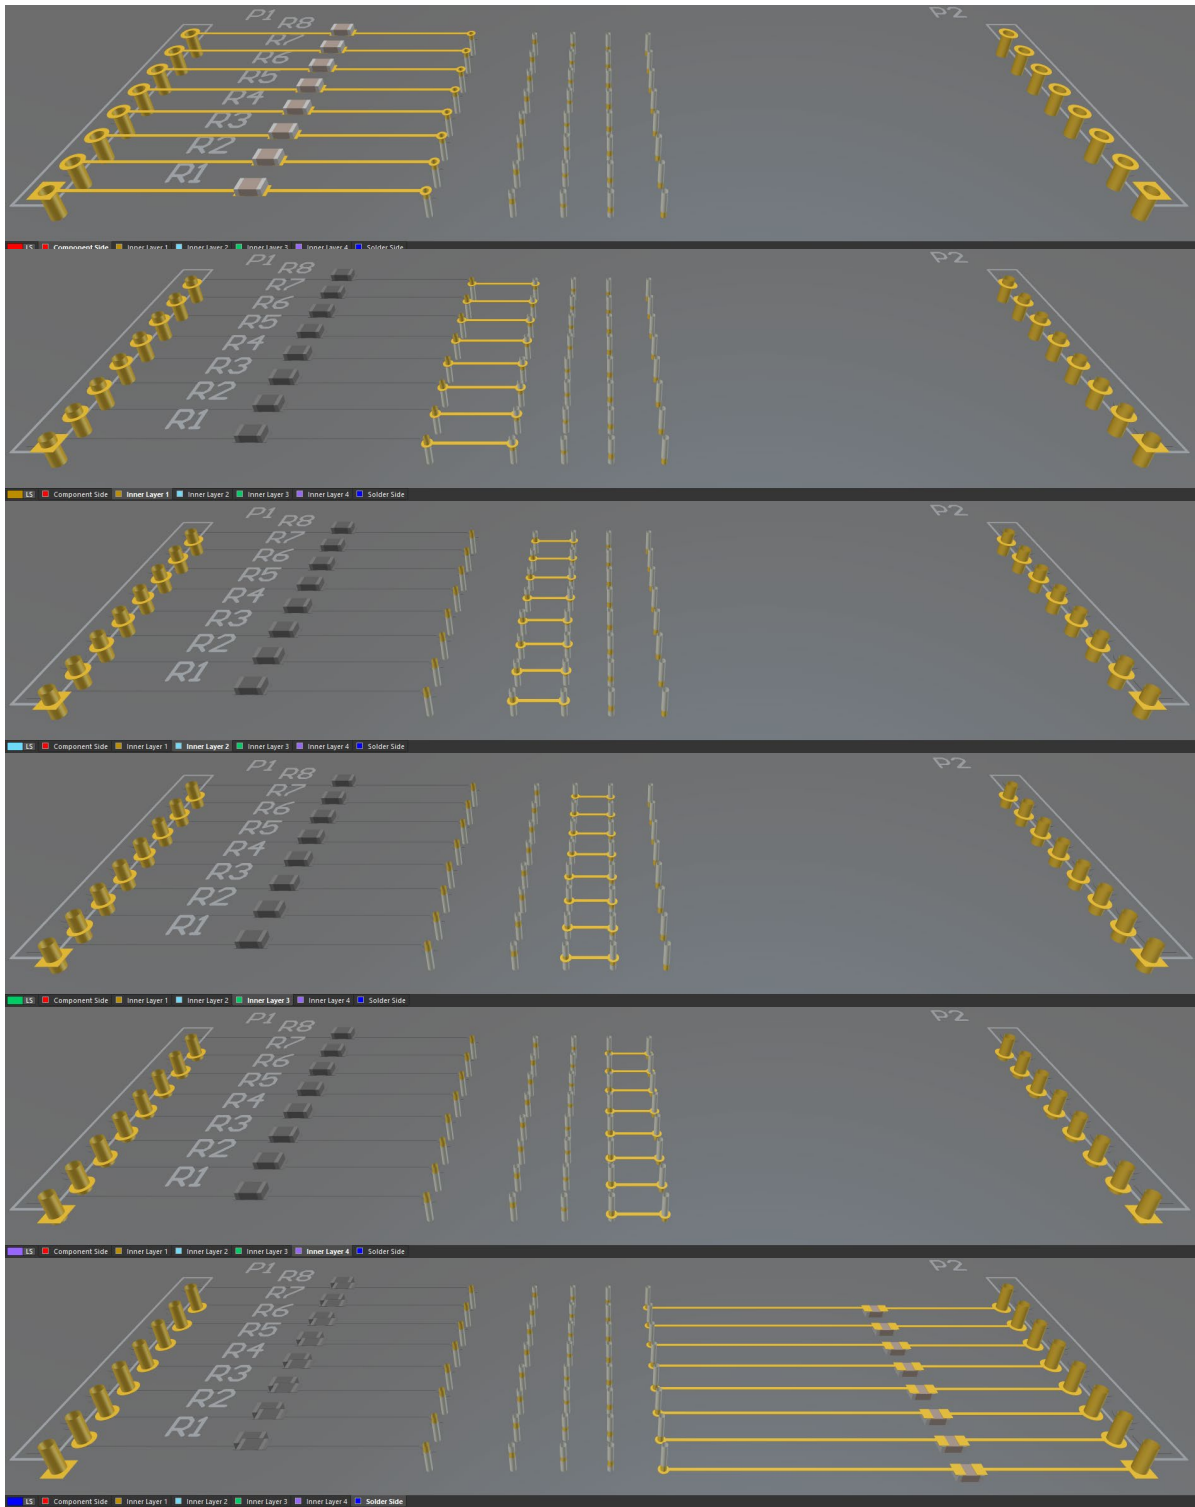

Figure 12. 3D Single Layer Viewing stepping from Top to Bottom layers
18. Switching back to 3D mode and using the **SHIFT+S** single layer viewing option we can cycle through the various layers of the PCB using the **+** button as you can see in the series of figures below, Figure 12: